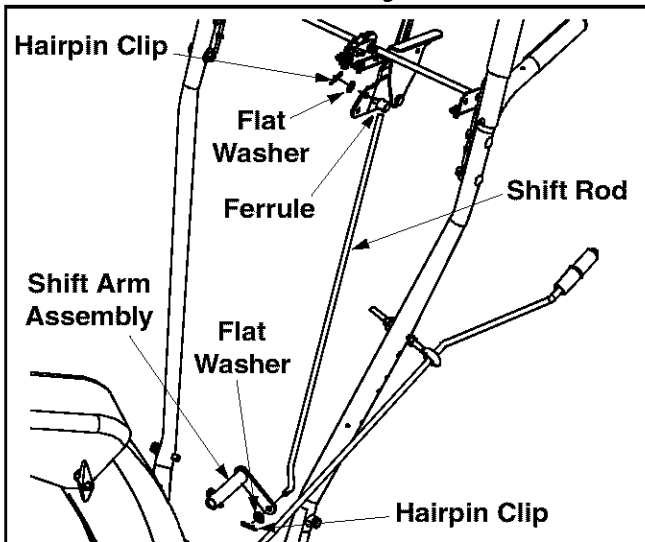

Figure 16
- Place shift lever in sixth (6) position or the fastest forward speed.
- Rotate the ferrule up or down on the shift rod as necessary until the ferrule lines up with the upper hole in the shift lever. See Figure 16.